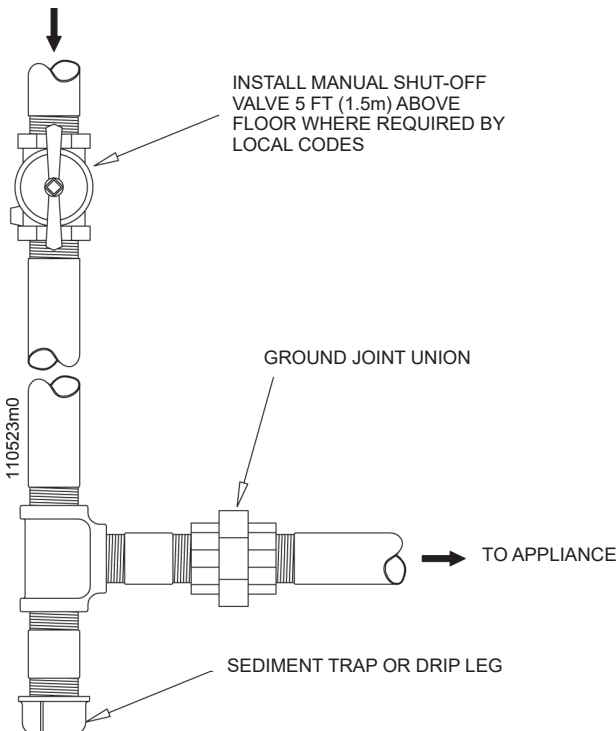

Figure 13-1 - Gas supply piping
- 1.- Refer to Figure 13-1 to pipe gas to the appliance.
- 2.- Install sediment trap / drip leg. (see Figure 13-1);